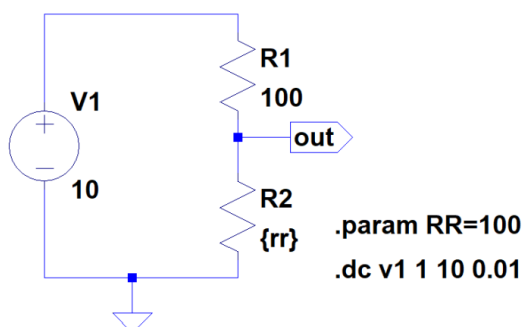

Fig. 4. Define the $rr=100$ parameter.
4. Modify the divider circuit as shown in Figure 4. To define the rr parameter, use the SPICE's directive editor (*SPICE directive*). Use the `.op` button  (last on the right) or use the keyboard shortcut - S.